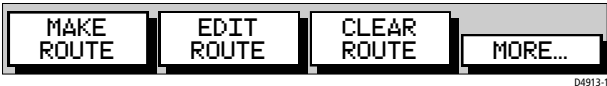

Figure 3-30: Route Soft Keys
1. Press the ROUTE soft key; the route soft keys are displayed as shown in *Figure 3-30*.